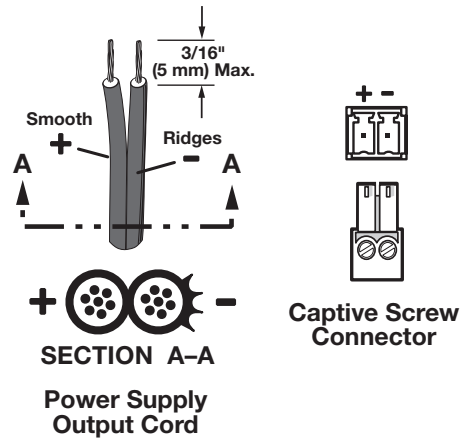

Figure 53. Power Connector Wiring
- Power supply voltage polarity is critical. Incorrect voltage polarity can damage the power supply and the unit. The ridges on the side of the cord (see figure 53) identify the power cord negative lead.